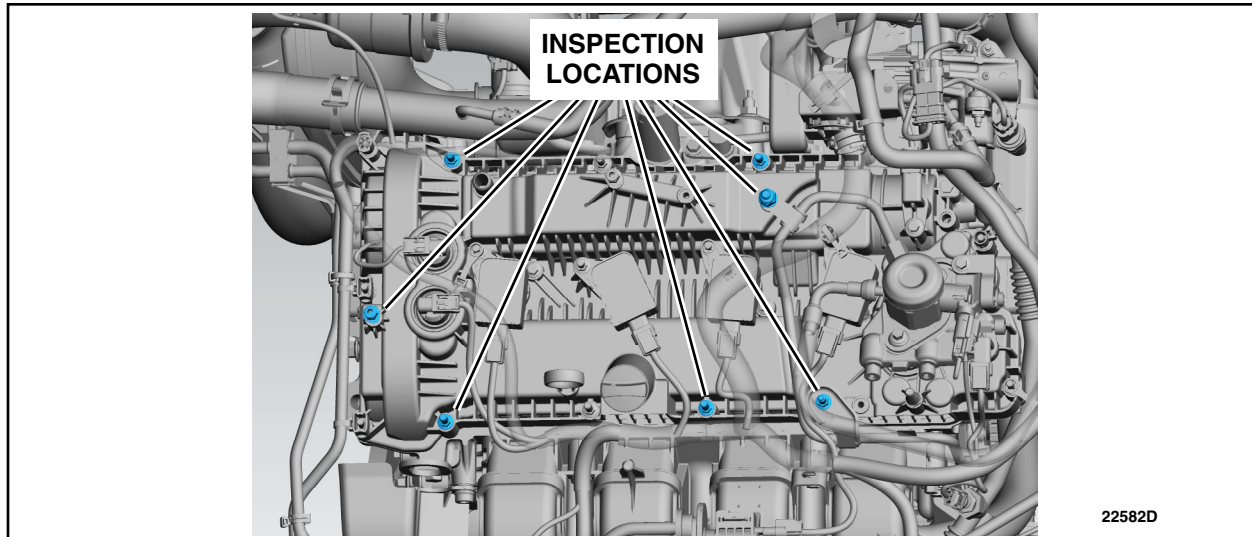

FIGURE 4
6. Using a torque wrench set to 53 lb. in (6 Nm), check the valve cover fasteners torque in the identified inspection locations. See Figure 4.